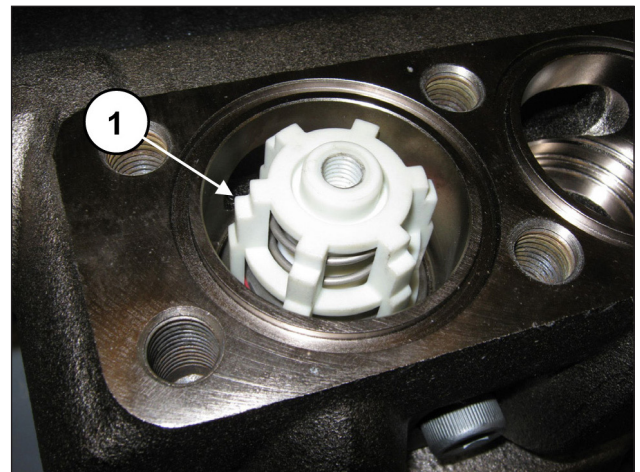

Fig. 157
The complete valve unit must be fully inserted into the bottom and should look like the image in pos. ①, Fig. 157.